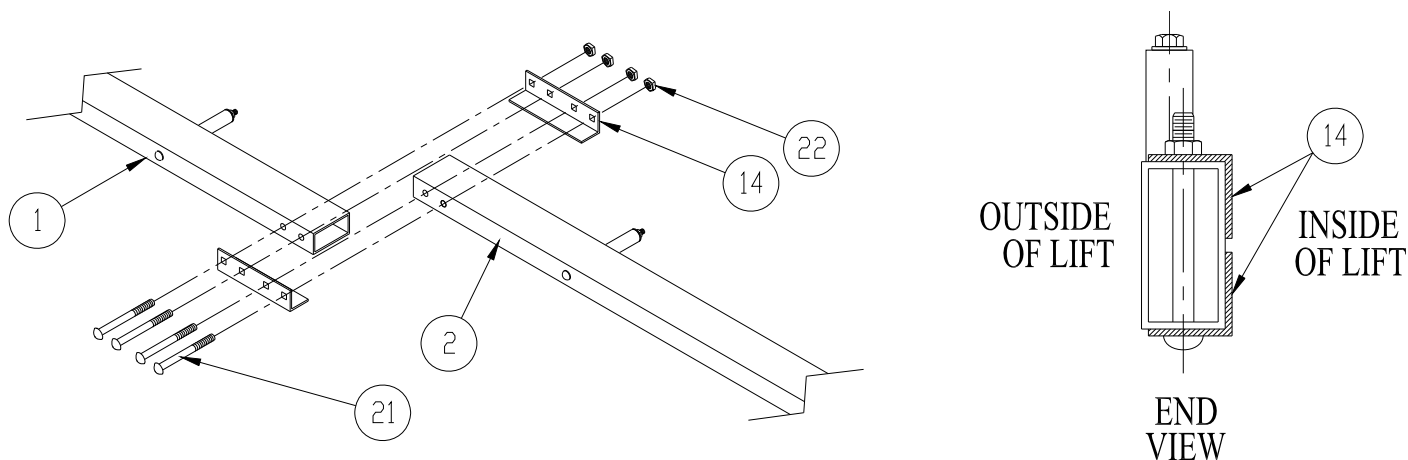

Figure 2-2.
2. Refer to **Figure 2-2**. Assemble both sides of your canopy frame on the ground using (1 ea.) left hand stringer (1), and right hand stringer (2), for each side assembly. Canopy rib bushings are offset to the outside of stringer face. Make certain that all stringers are positioned properly. Fasten each joint together with two stringer connecting angles (14), and hardware shown to inside stringer face. Each stringer assembly **MUST** be straight for proper fabric fitting.